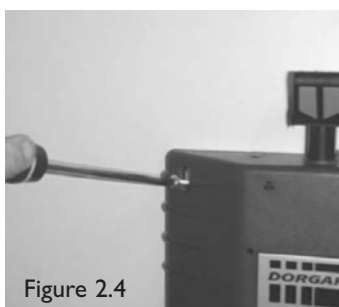

Figure 2.4
- 5) Using 2 of the 4 screws supplied fix Dorgard to your fire door; at points A and B on fitting template. This will allow Dorgard to be moved up and down slightly for correct positioning. When Dorgard is in the correct position fasten down all 4 screws. (Fig 2.4)